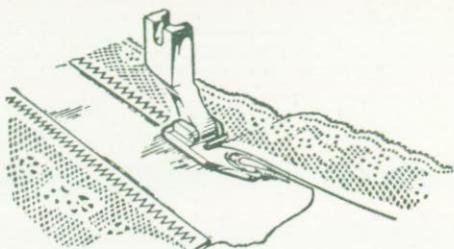

Fig. 43
d) HEMMING AND SEWING ON LACES (Fig. 43)